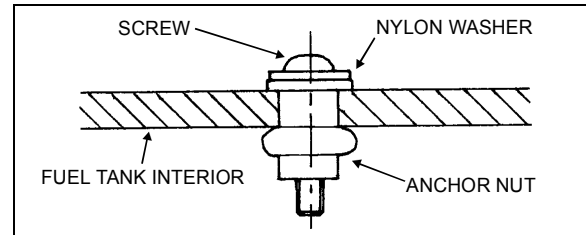

FIGURE 9: FUEL TANK REPAIR
5. Place assembly in drill hole. tighten screw by 10 complete turns. Refer to Fig. 9.